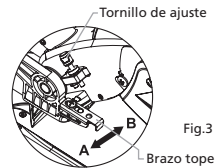

Fig.3
**AJUSTANDO EL BRAZO DE TOPE (Fig. 3)**